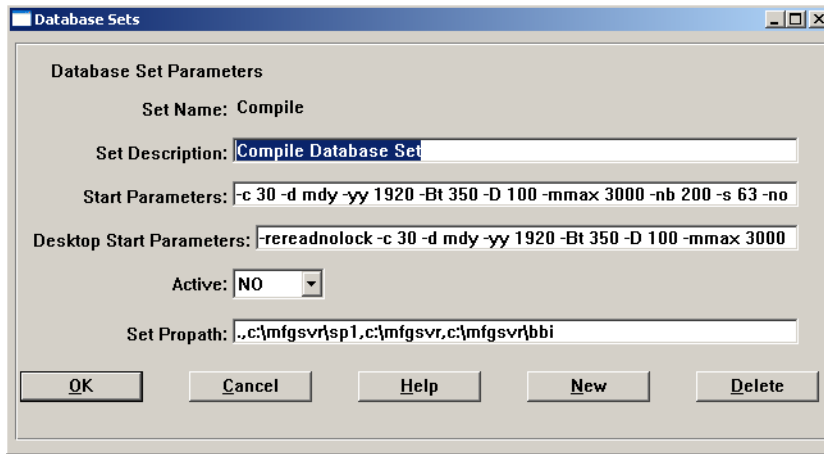

Fig. 13 Database Set with Updated PROPATH
- 3 Modify the PROPATH for the set so that the new service pack directory appears first, Figure 13.